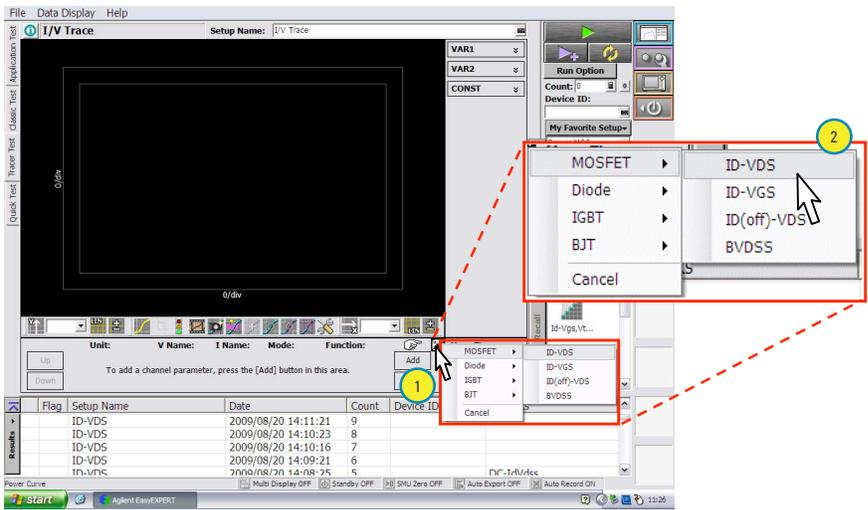

Figure 8. Select preset setup for Id-Vds measurement.
1. Click the preset button located in the bottom right area of the display (Label 1 of Figure 8).
2. Select "ID-VDS" from the list displayed after selecting the "MOSFET" category (Label 2 of Figure 8).